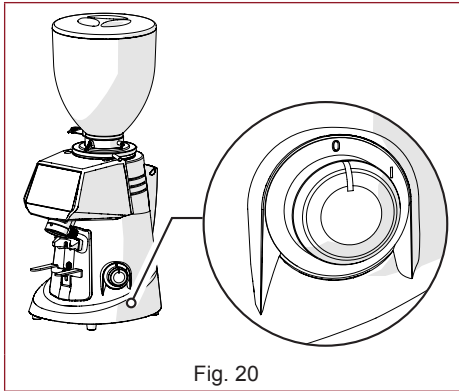
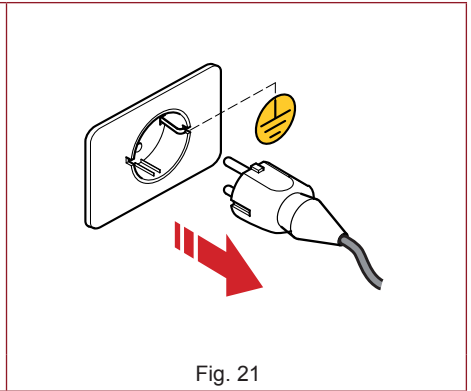

Fig. 20
Fig. 21
**ATTENTION!** Before carrying out any routine maintenance work on your grinder doser, disconnect it from the power supply by turning the power switch (Fig. 20) to the “O” (OFF) position and disconnect the power plug from its socket (Fig. 21).